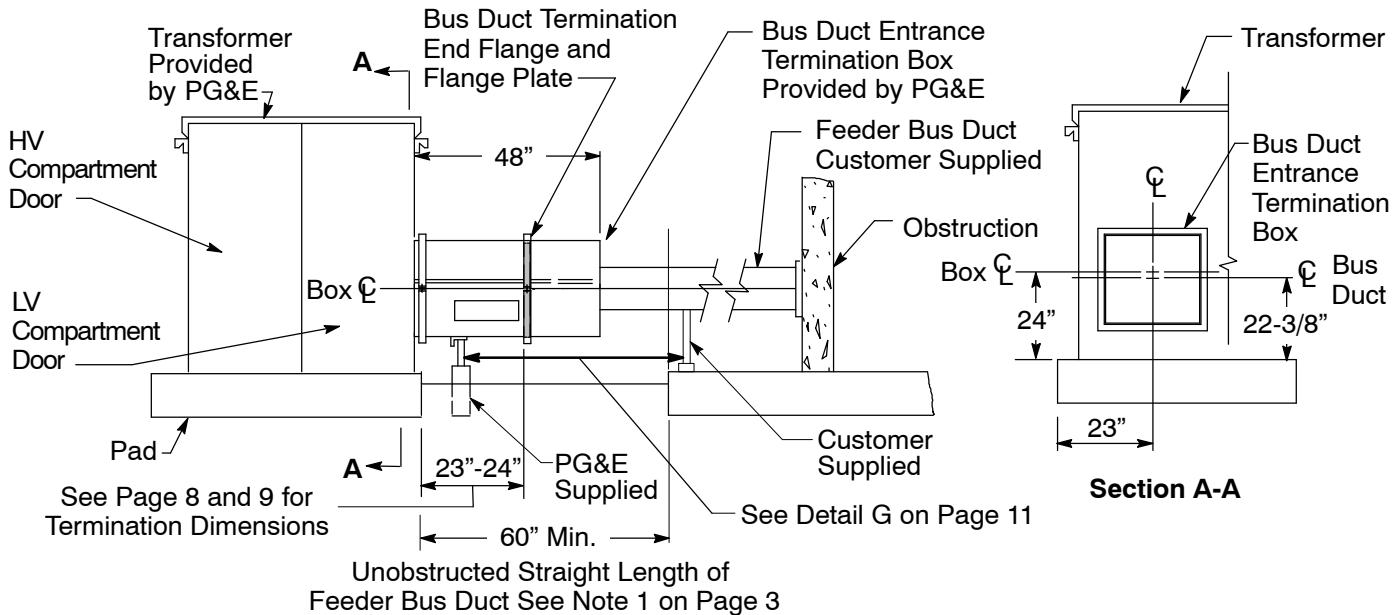
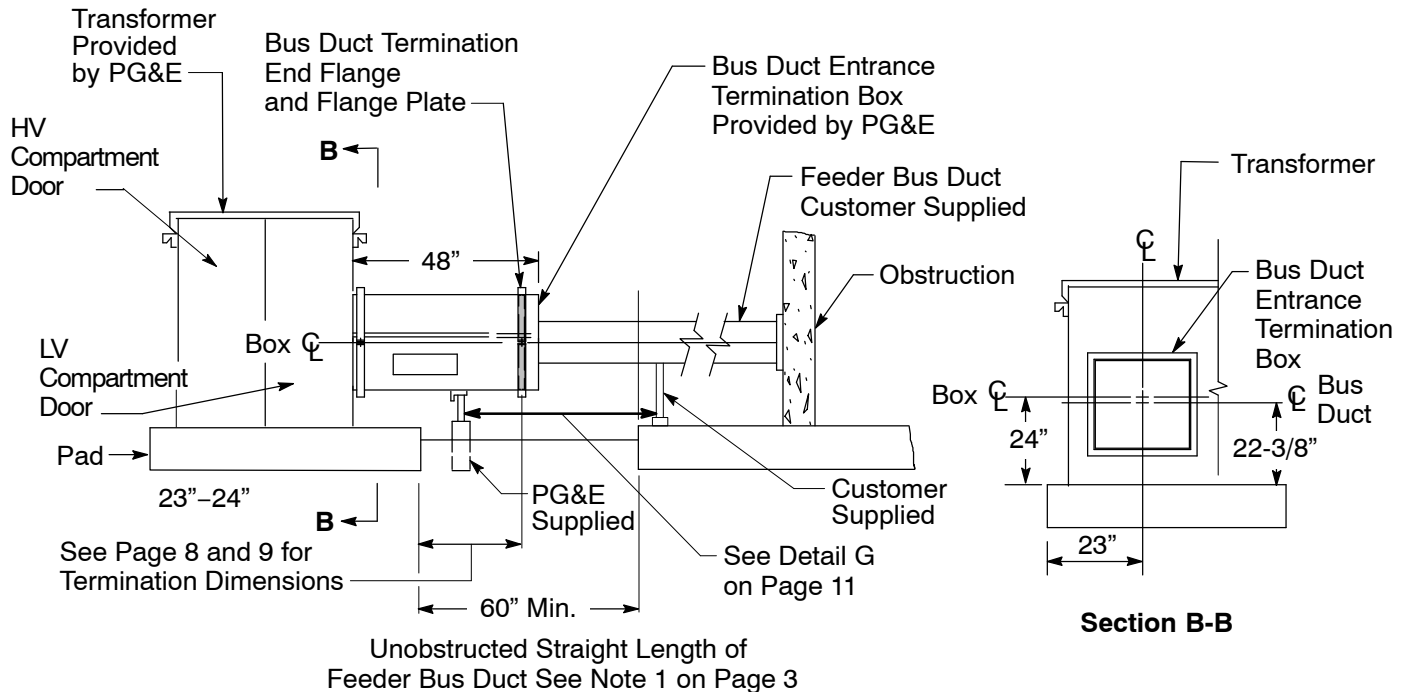

Figure 1
Figure 2
1. Method of installation (see Figure 1 on Page 4) - The location of the edge of the pad must first be established by consultation between PG&E and the building architect or contractor. The bus duct termination end flange and flange plate must be located such as to permit its connection to the bus duct entrance termination box at a point 23 inches to 24 inches from the edge of the pad. The vertical centerline of the bus duct entrance termination box must be located 23 inches from the front edge of the transformer pad (see Figure 1, Section A-A and Figure 2, Section B-B on Page 4). Additionally, there must be a minimum of 60 inches straight length between the edge of the pad and any obstruction (bend, support, apparatus, wall or building, etc) in the bus duct to accommodate the 48" long bus duct entrance termination box provided by PG&E.
5. Feeder bus duct and entrance box supports - Feeder bus duct supports (where necessary) are required to be installed by the customer. The entrance box must not be used as a bus duct support. PG&E will provide and install a support (supports are not part of a kit) for the bus duct entrance termination box, as shown in Figure 1 and Figure 2 on Page 4, and Detail G on Page 11.